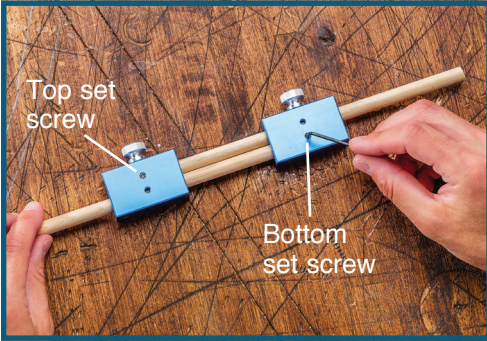

Fig. 1
1. Insert the dowels/rods into the gauge bodies and tighten the set screws with the 2mm hex wrench on the top and bottom. **Fig. 1.**